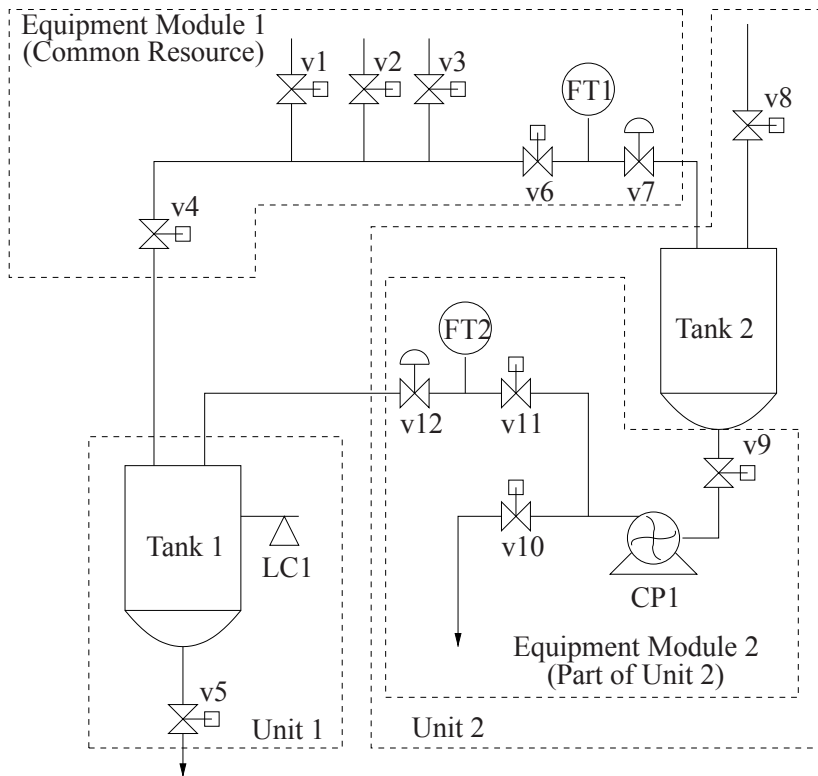

Figure 1
3. One example of how to classify the process cell: The process cell contains two units: Unit 1 and Unit 2. Equipment Module 1 is a common resource (stand-alone), exclusive-use. Equipment Module 2 is part of Unit 2. See Figure 1.